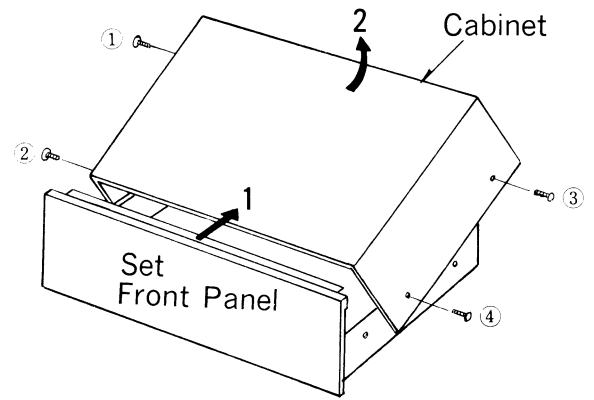

Fig. 1
1. Remove four (4) cabinet-mounting screws, nos. ① ~ ④ as shown in fig. 1.
2. Remove cabinet from chassis in arrow direction 1 to 2, as shown in fig. 1.